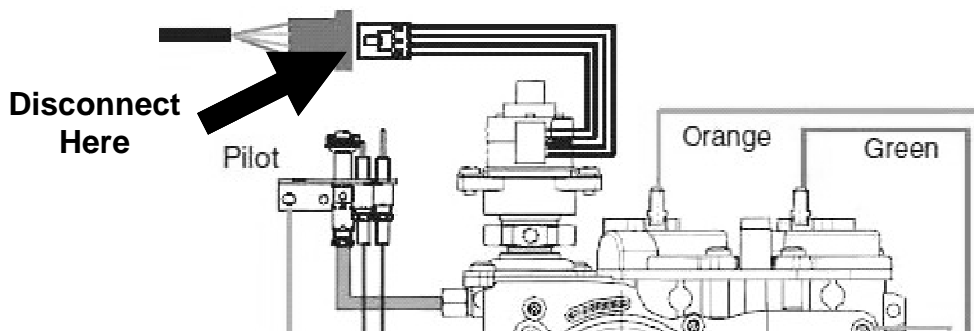

Figure 5 - Motor Lead Connection Detail
13. You will need to disconnect the motor lead. Follow the wires from the stepper motor back until the first connection. Disconnect the wires at this junction. See *Figure 5*.